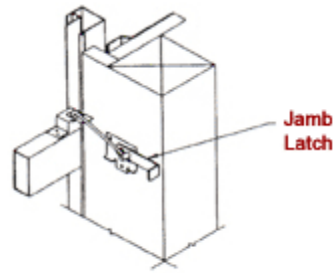

FIGURE 20
- 4.) Keep slot for hook in line with hook on latch. (See Fig. 20)